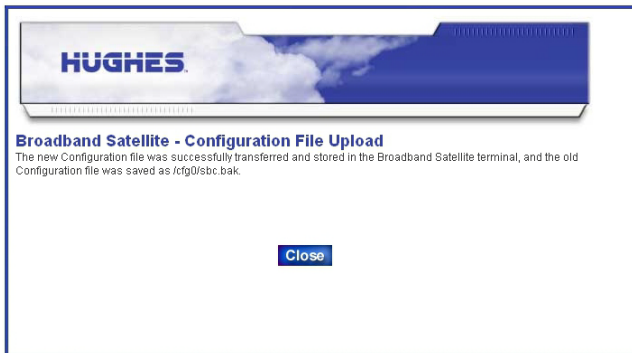

Figure 13: Confirming the sbc.cfg file upload
9. Wait to see the message shown in Figure 13, which indicates that the configuration has been transferred to the router.